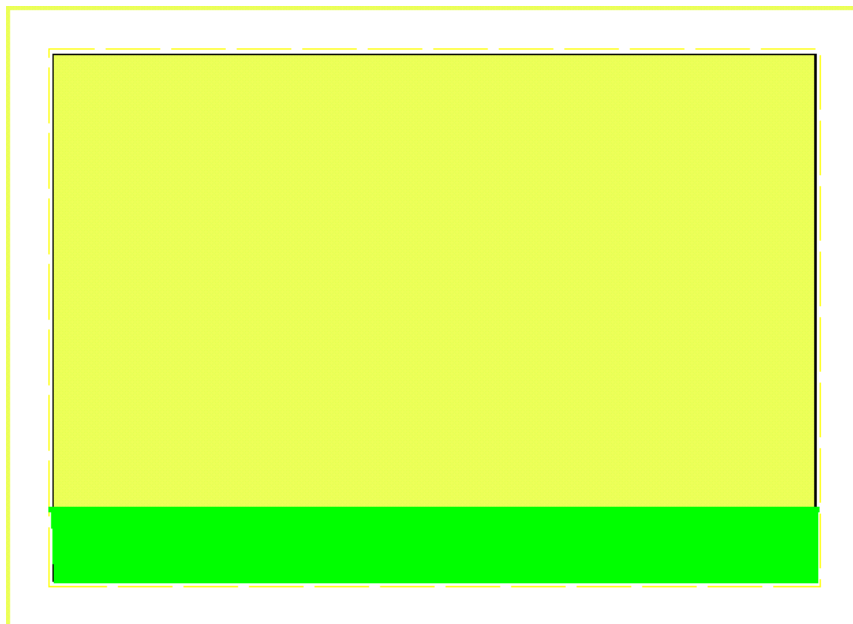

Figure 4-110
44. Select *Modify|Select|Window* and place a window that completely encompasses the whole bottom divided section of the template. This should include the legends. See Figure 4-110.